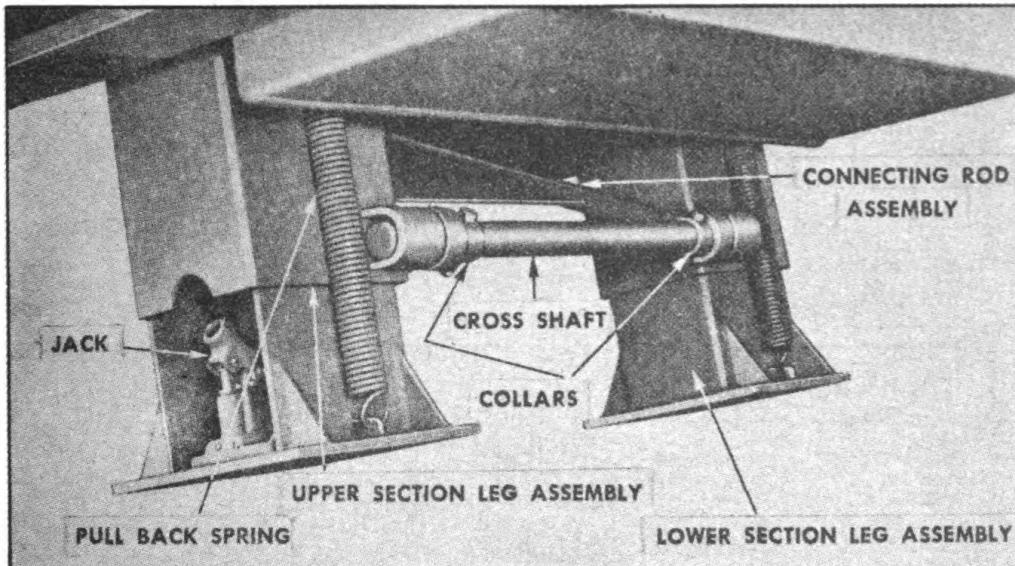

FIGURE 65. SUPPORTS—SEMI-TRAILER
2. REMOVAL OF JACKS.—*a.* Put supports in the "up" position (Figure 65).
4. SUPPORT LEG ASSEMBLY (Figure 65).—a. *Removal*.—(1) Remove bolts from collar on both sides of cross shaft to remove leg assembly.